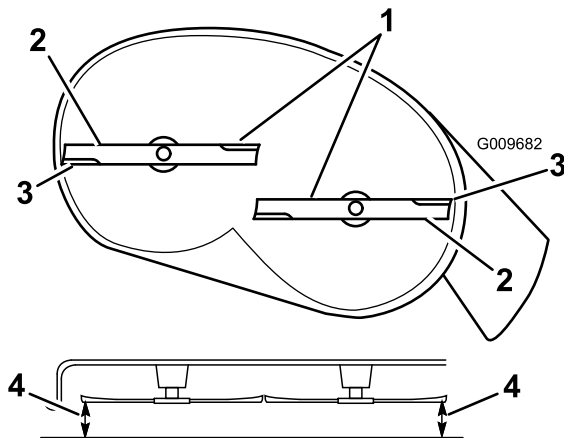

Figure 48
4. Carefully rotate the blades so that they are all side to side (Figure 48).
5. Measure between the outside cutting edges and the flat surface (Figure 48). If both measurements are not within 3/16 inch (5 mm), an adjustment is required; continue with this procedure.